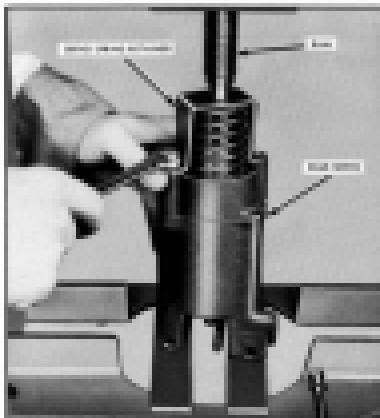

Fig. 421. Removing Rear Servo Spring Retainer Screws.
- wires holding spring retainer to servo body using open end wrench while keeping ram of press against spring retainer. (Fig. 421)